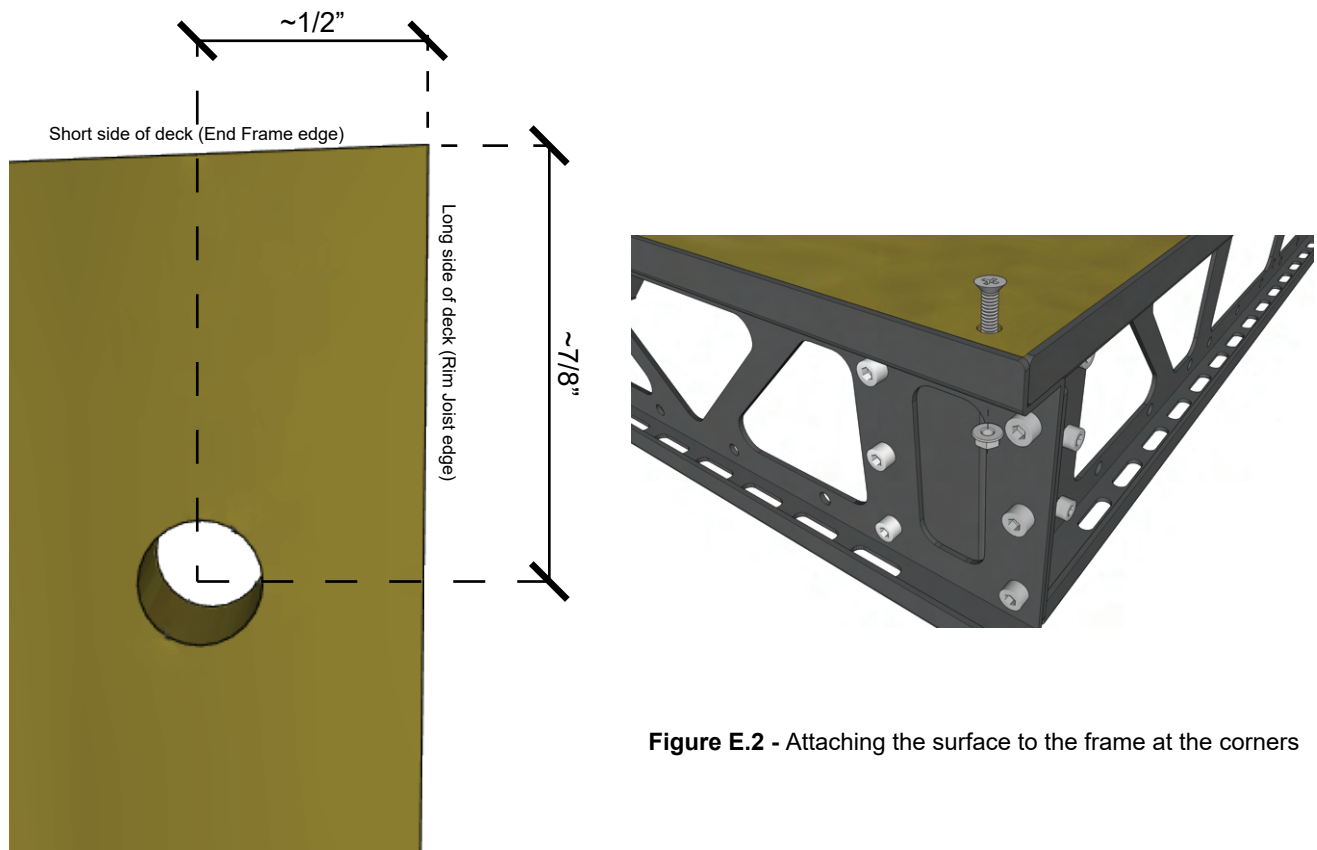

Figure E.2 - Attaching the surface to the frame at the corners
Check the fit of your deck surface in the frame. Lay out (4) holes in the corners of the deck surface for the 1/4"-20 Phillips flat head screws to line up with the holes in the lip of the Rim Joists. The center of these holes should be approximately 7/8" in from the short sides of the deck surface (End Frame edge) and 1/2" in from the long sides of the deck surface (Rim Joist edge) [see Figure E.1]. Drill the (4) holes and countersink the holes with the countersink facing up. Place the surface into the frame and bolt together using the (4) 1/4"-20 x 1-1/4" Phillips flat head screws and (4) 1/4"-20 flange nuts [see Figure E.2].